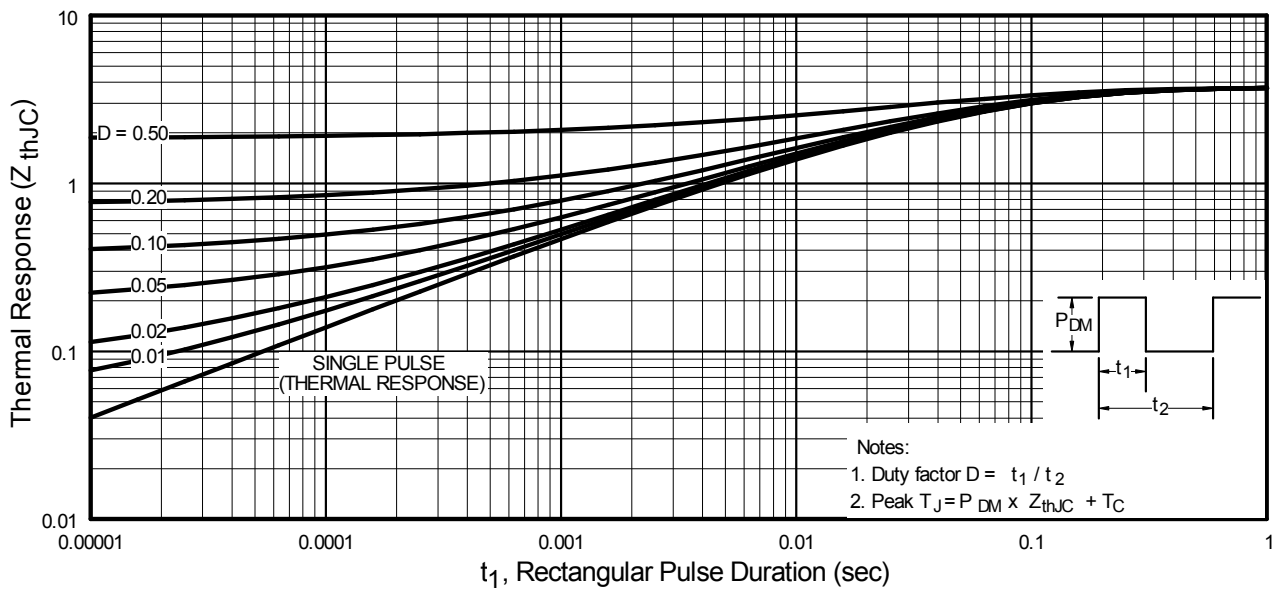

Fig 11. Maximum Effective Transient Thermal Impedance, Junction-to-Case
- ① Repetitive rating; pulse width limited by max. junction temperature. (See fig. 11)